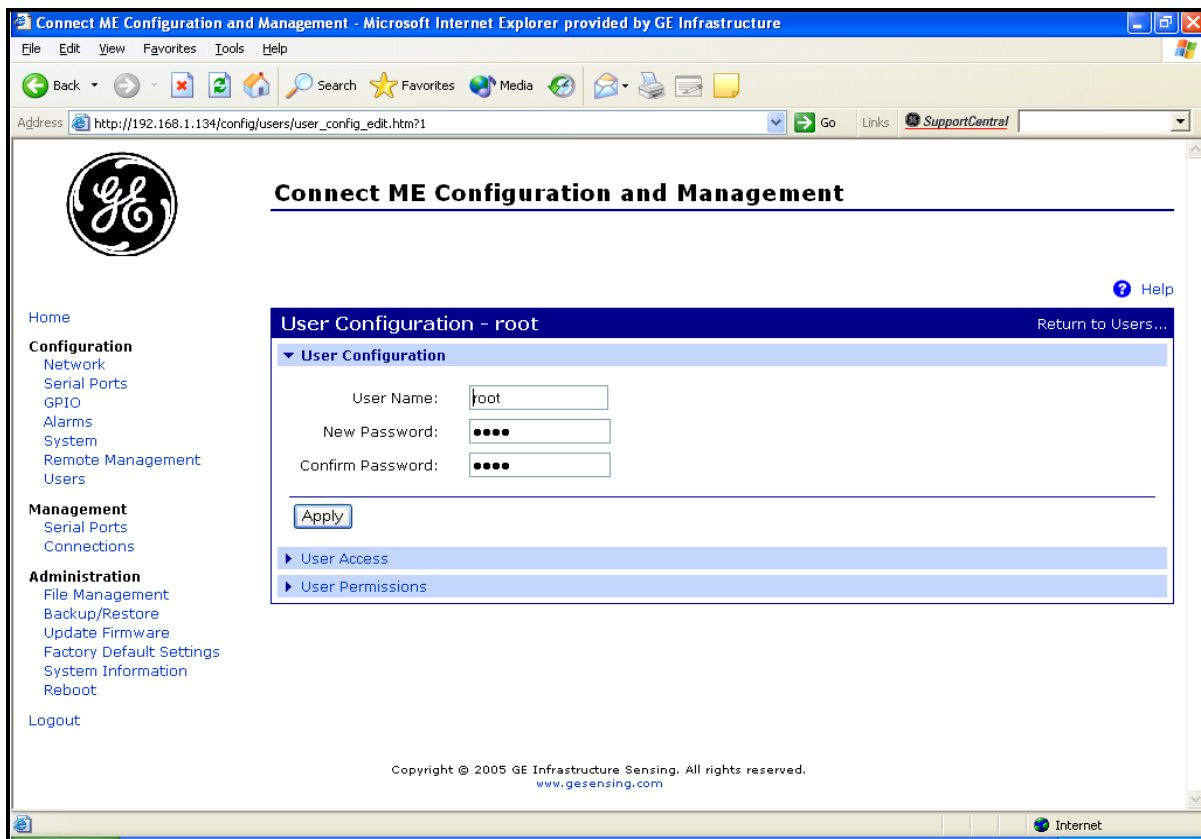

Figure 19: Changing the User Name and/or Password
5. Click on **New....** Figure 19 on page 27 appears.